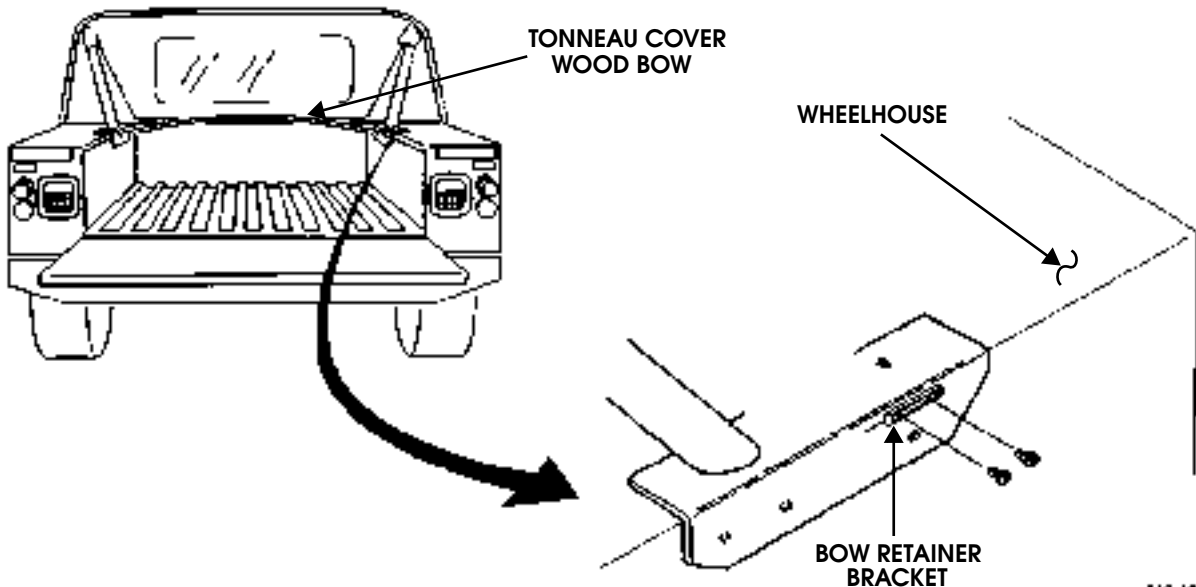

Figure 10-130: Tonneau Cover Wood Bow Removal
2. Remove tonneau cover wood bow from two retainer brackets (Figure 10-130).